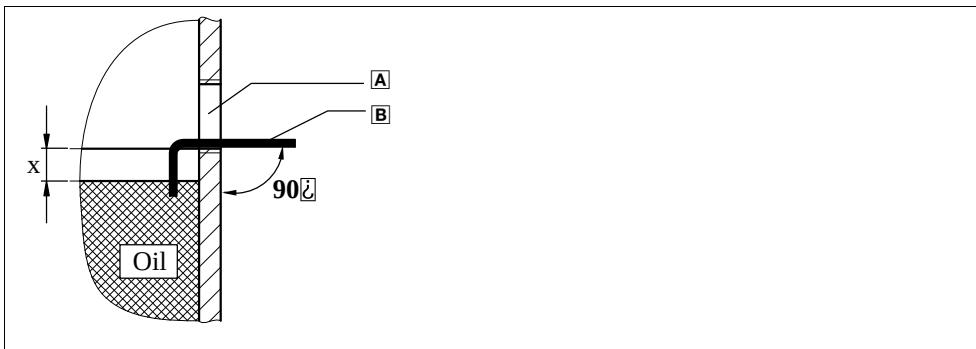

Fig. 4 Oil-level check with auxiliary tool
- Min. oil level: X mm below bottom edge of oil-level bore (see Fig. 4 and Tab. 6).